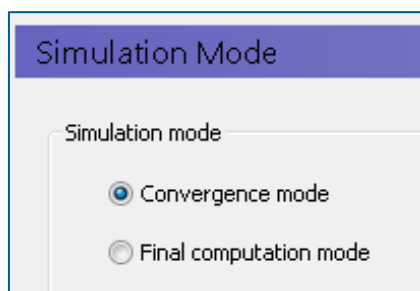

Figure 3.19 Simulation Mode - Convergence
6. Set the Simulation Mode to *Convergence mode* as shown in Figure 3.19.